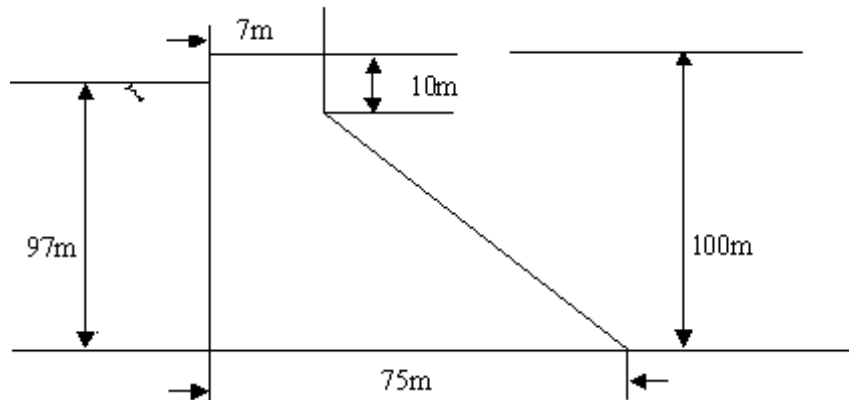

Figure 5
5. The following figure 5 gives profile of a gravity dam with reservoir level as shown. If the co-efficient of friction is 0.8 and weight density of concrete is $2.4t/m^3$, Check the safety of the dam against sliding and overturning. Assume any other data not given. [16]